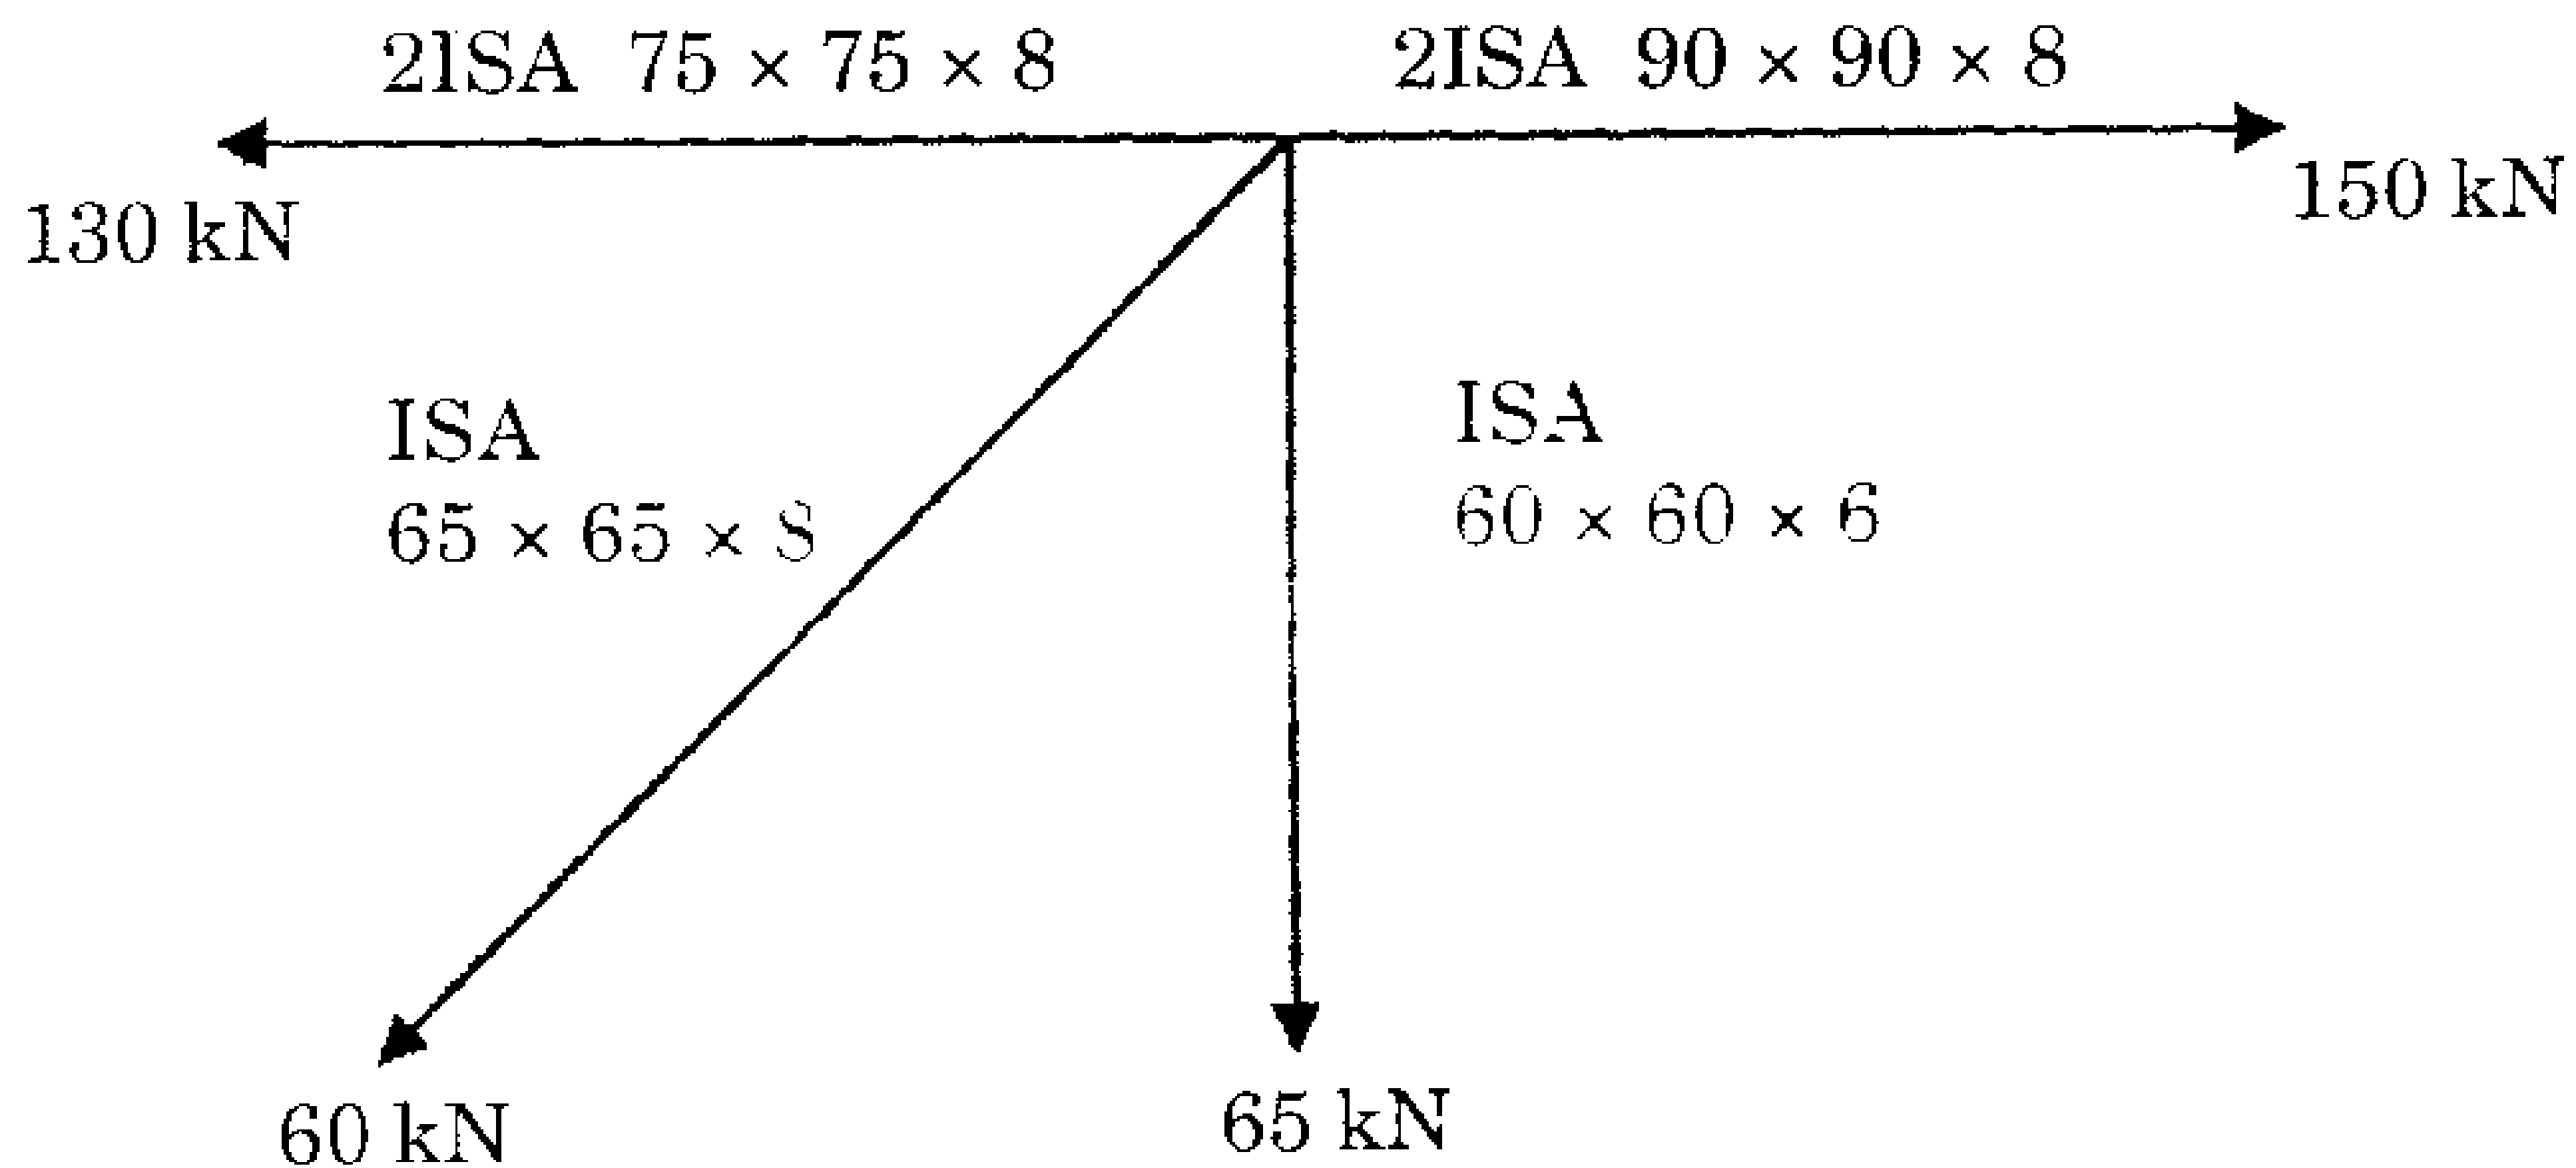

Fig. 7
- (b) Design the joint of a truss shown in Fig. 7. The members are connected by Power driven rivets of 20 mm diameter in gusset plate 12 mm thick. 30